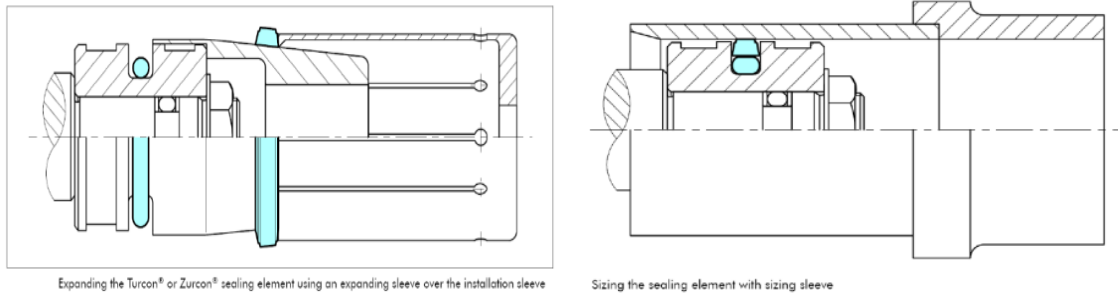

Figure 9 : Installation of seals
- The seal must have no sharp bends as shown in figure 9